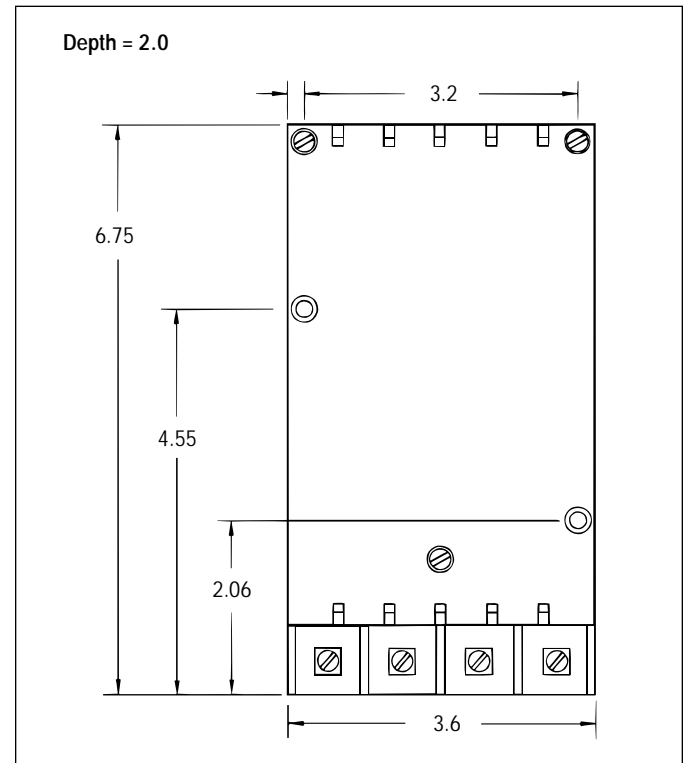

Figure 4-3 Separate Source/Self-Powered Power Module Dimensions (inches)
- Make sure the separated Power Module can physically fit in the location selected (Figure 4-3).